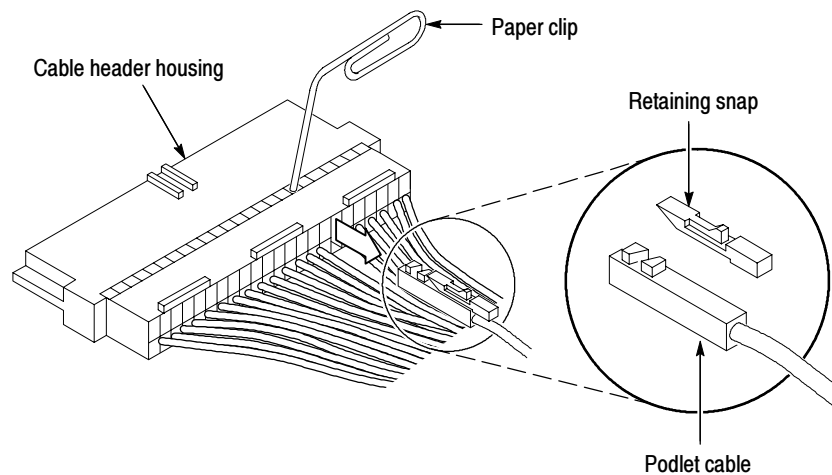

Figure 12: Removing the faulty channel from the probe cable header housing
6. Refer to Figure 12 and use a small, pointed tool, such as a straightened paper clip or a mechanical pencil, to release the faulty cable from the cable header housing. Discard the small plastic retaining snap.